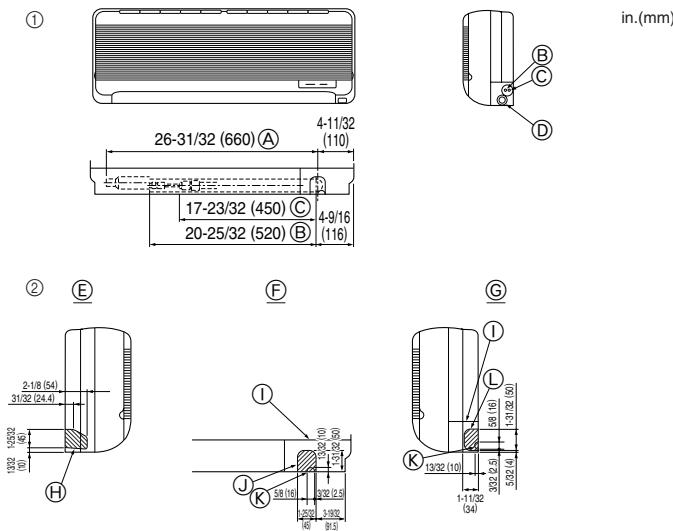

Fig. 4-3
■ PKFY-P06/P08NAMU-E (Fig. 4-3)
- ① Position of refrigerant and drain piping
- (A) Total length of flexible hose
- (B) Liquid pipe
- (C) Gas pipe
- (D) Drain hose
- ② Determine the position of the knockout holes on the unit body.